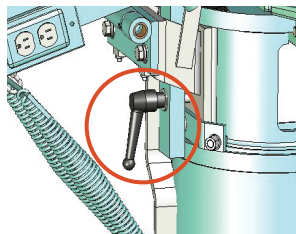

Fig. 4 - Ratchet Handle
6. Lock head in place before moving the saw. Likewise, tighten the ratchet handle (See Fig. 4) to prevent the saw head from swiveling left and right. (Move stationary saws with head down.) (For mobile units, lock head in an upright/angled position.)
2. Then loosen the ratchet handle. (Fig. 4)